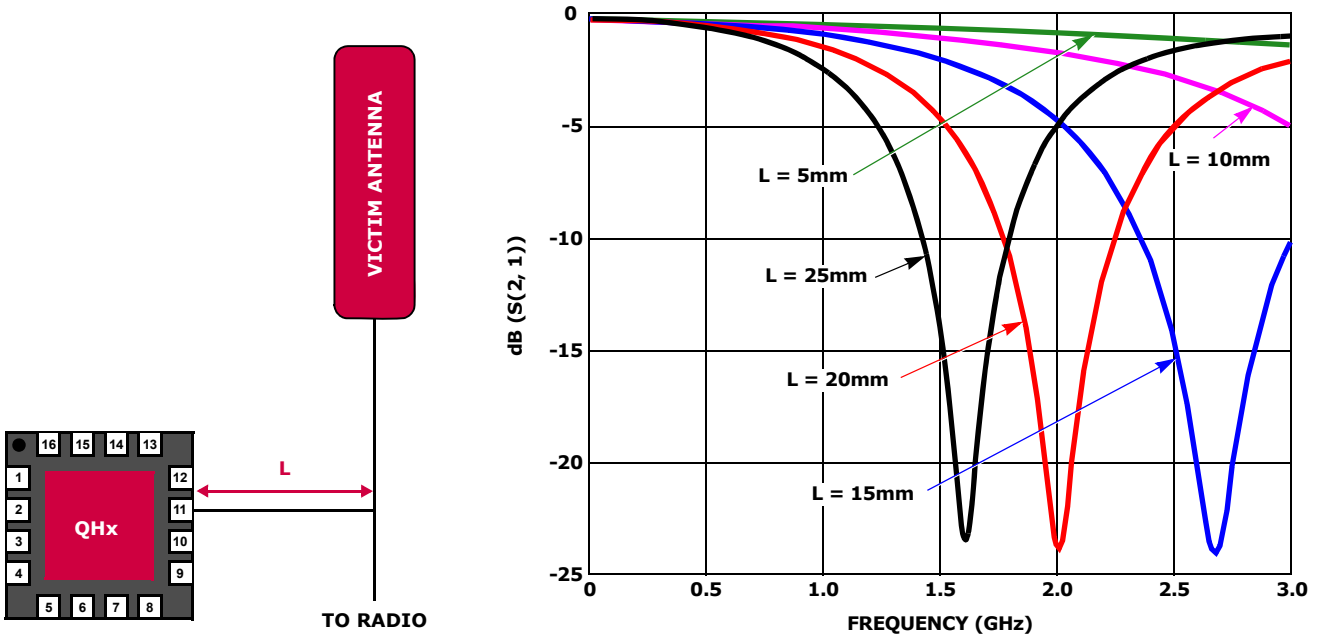

FIGURE 2. DISTANCE FROM CANCELLATION NODE vs FREQUENCY
5. The high impedance RF output of the QHx220 devices must be placed <5mm from the cancellation node (the tapping point of the victim receiver), otherwise resonances can occur that will attenuate the cancellation signal. Figure 2 shows the effect of varying the distance "L" between the QHx220 output and the tapping point of the victim receiver.